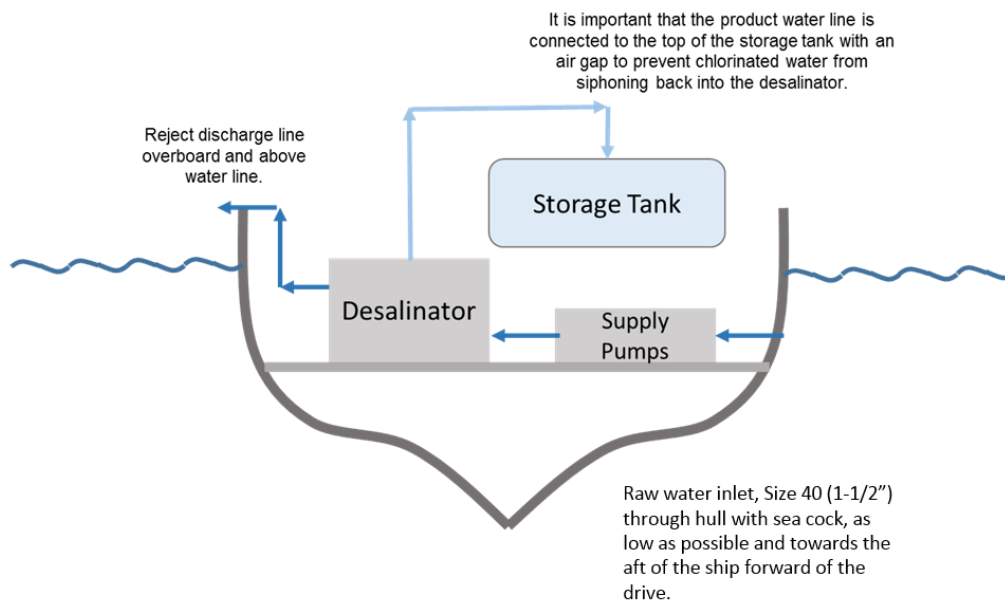

Figure 2.1 – RO Below Water Line
The RO unit should be installed in a dry, sheltered location protected from direct weather. Some type of drainage should be provided beneath the RO unit to allow standing water to drain when performing maintenance or repair. During installation, it is critical to position the H2O ECO system below the water line of the boat or vessel to avoid air bubbles that might stall the unit during operation. *Figure 2.1 shows the RO System installation below the water line.*
- b) Connect the reject discharge (concentrate flow), to an unobstructed line using a flexible connection. The reject should be discharged overboard above the waterline. Refer to Figure 2.1 and 2.2 in page 8 and 9.
- c) Connect the potable water discharge using a flexible connection to an unobstructed line that is connected to the TOP of the potable water storage tank. Refer to Figure 2.1. If the storage tank water is chlorinated, a check valve or air gap should be installed in the product line as a precaution to prevent chlorine damage of the RO membranes. The air gap is often accomplished by teeing the product connection to a tank vent or tank fill line of suitable size.